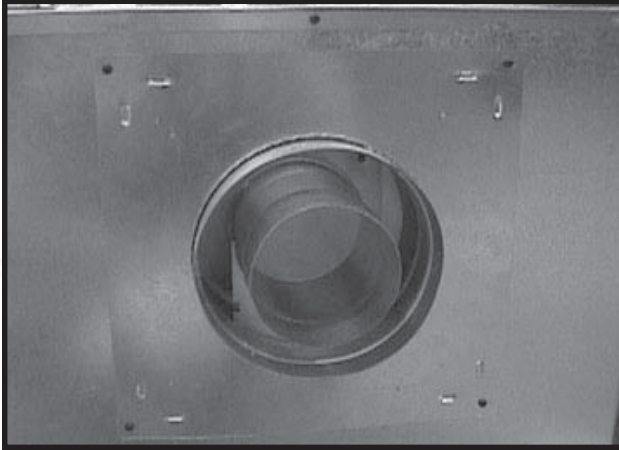

Figure 15 - Place Insulated Plate on Rear of Appliance
- k. Locate the plate removed in Step b. Place the plate around the rear vented collars and replace the four screws that hold the plate in place. See Figure 15.